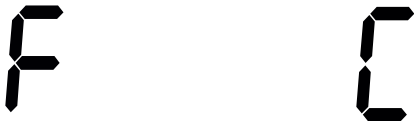

Figure 7: Display showing Fahrenheit and Celsius
2. Once **F (or C)** appears in the display, press **Self Clean** to toggle between Fahrenheit and Celsius temperature display modes (Figure 7).